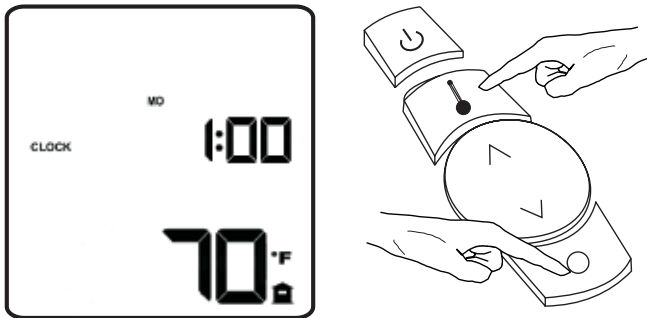

Figure 6
5. Simultaneously press the mode and menu buttons to enter the Clock Setting Mode. **See Figure 6.**